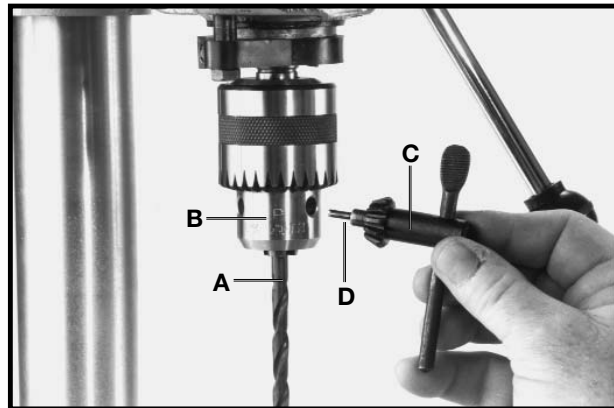

Fig. 31
2. Insert smooth end of drill bit (A) Fig. 31, into chuck (B), as far as it will go, and then back the bit out 1/16 in., or up to the flutes for small bits.
3. Make certain that the drill bit (A) Fig. 31, is centered in the chuck (B) before tightening the chuck with the key (C).
4. Turn the chuck key (C) Fig. 31, clockwise to tighten and counterclockwise to loosen the chuck jaws.
6. **MAKE SURE** chuck key (C) Fig. 31, is removed from chuck before starting drill press. Your chuck key (C) is equipped with a self-ejecting pin (D) which helps minimize the hazard of the key being left in the chuck.